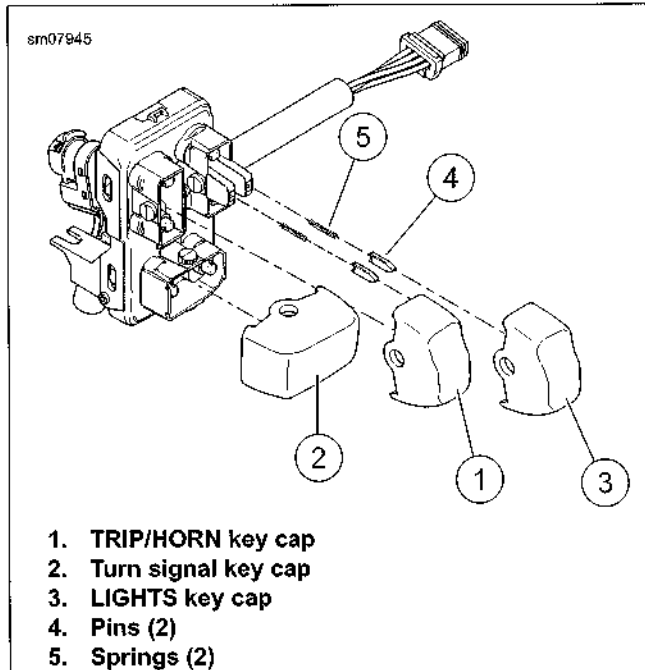

Figure 6-122. Key Caps
See Figure 6-122. Replace TRIP/HORN (1) and turn signal key cap (2).